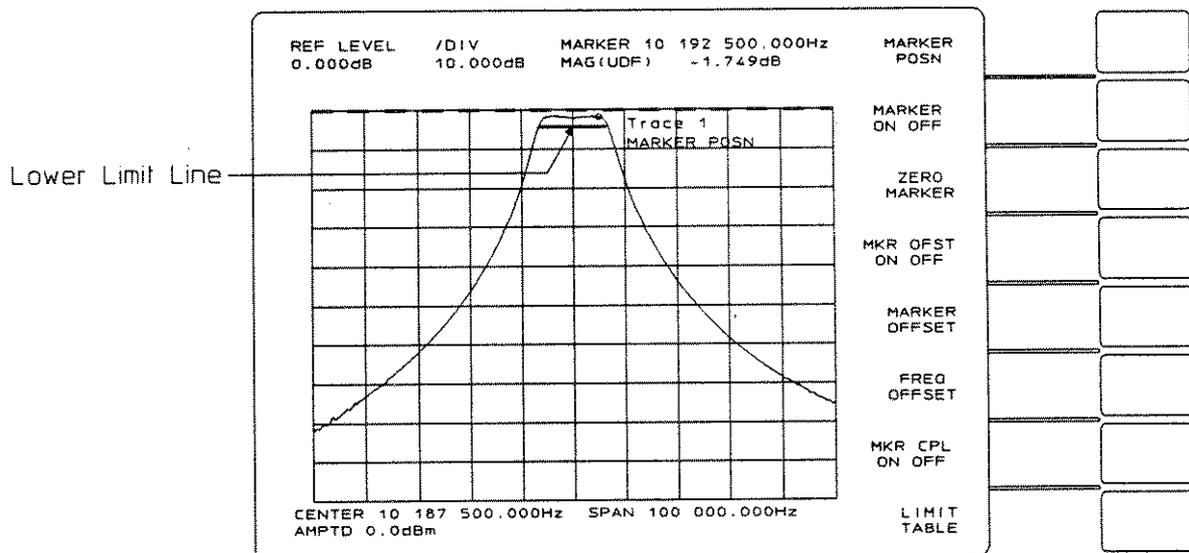

Figure 2-25. Lower Limit Line for 3 dB Passband
8. Check for where the limit was drawn on the display by pressing [LIMIT CONFIG] and toggle to [LINES **ON** OFF]. Press [RETURN] (twice) and look for the limit on the display as in figure 2-25.